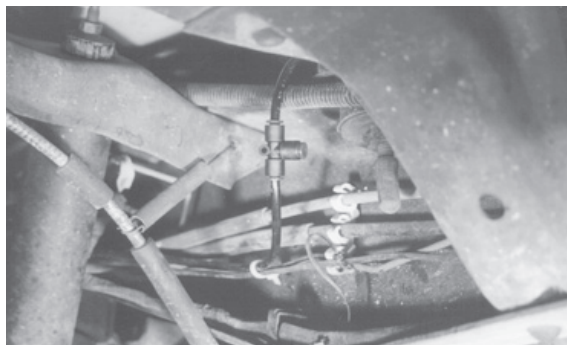

fig. 23
1. Deflate each air spring. Cut the air line already installed between air spring and inflation valve. Install a tee fitting (L) (Fig. 23). Follow this same procedure for air line leading to the other air spring, and inflation valve.